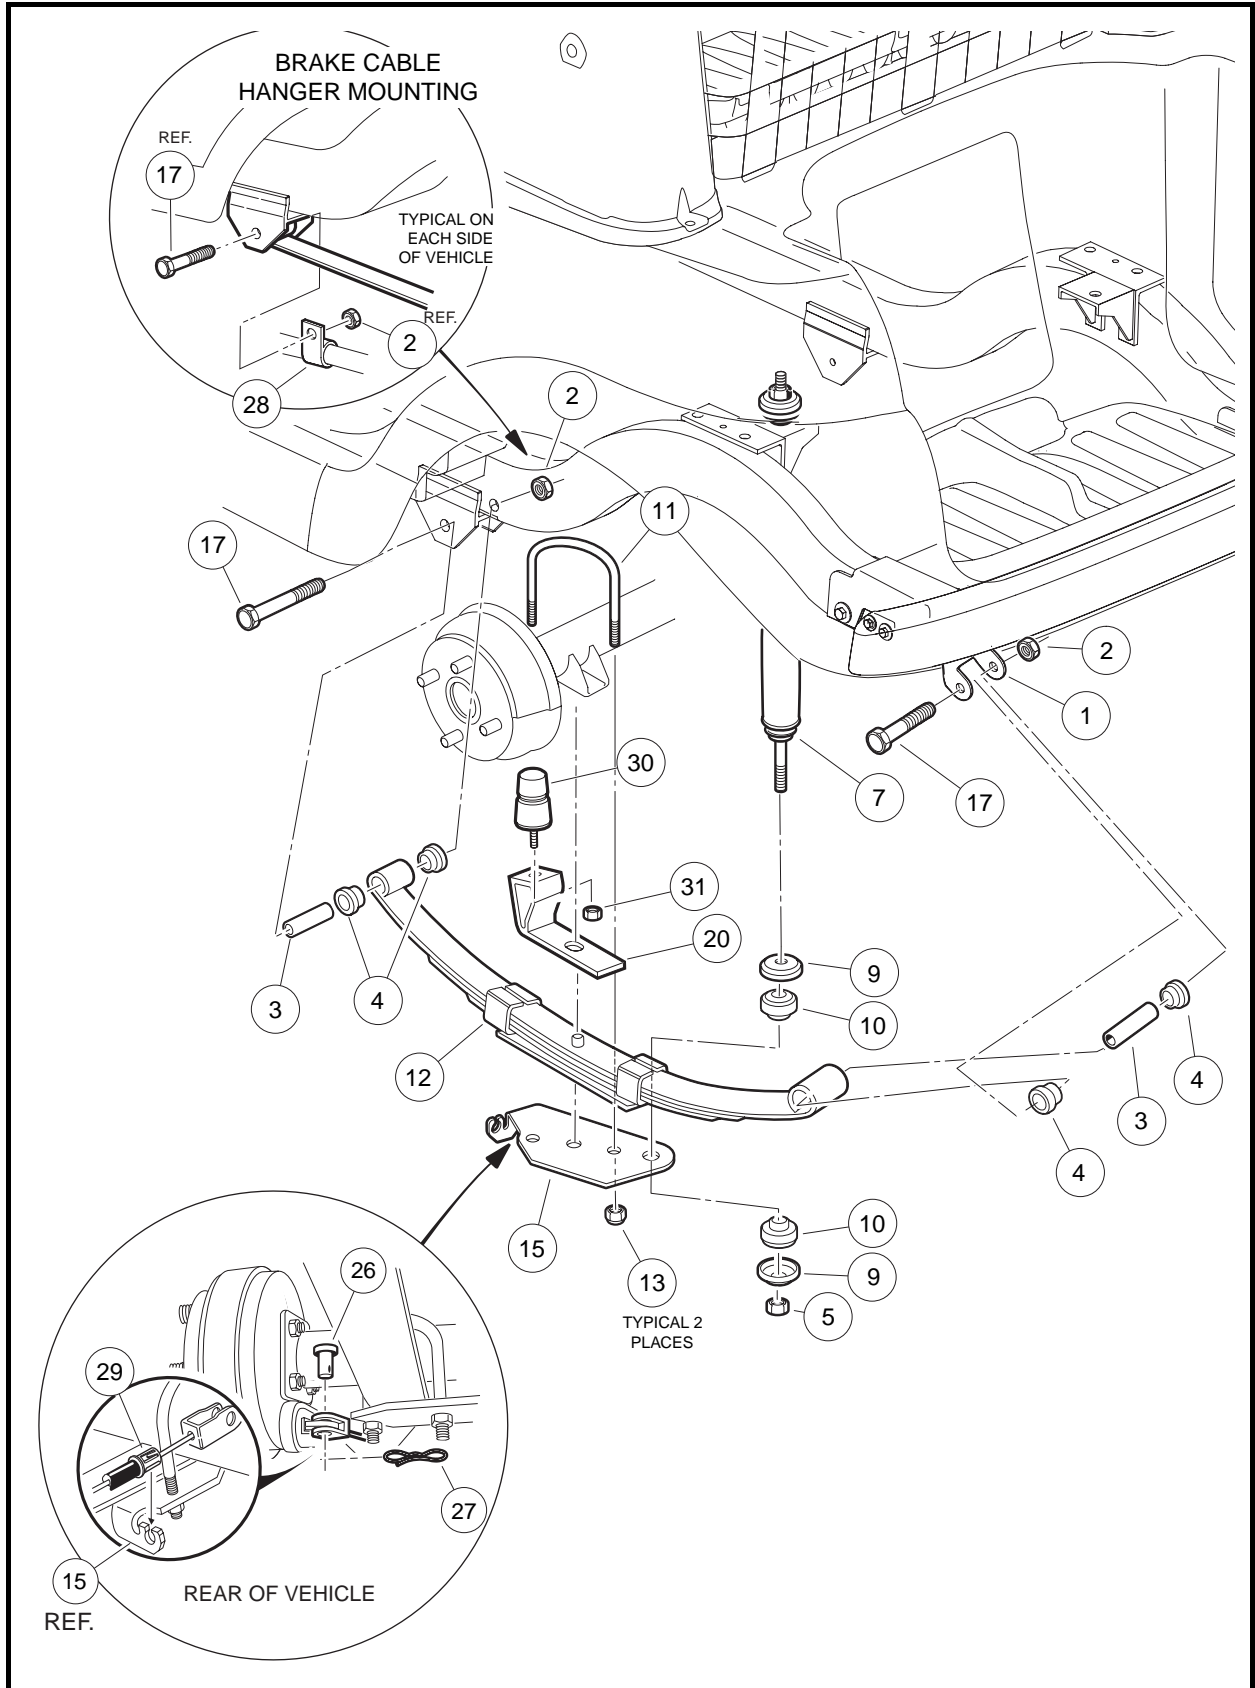

Figure 9-4 Rear Suspension Assembly and Mounting (Four-Passenger Vehicles)
1. Check shock absorbers (7) for damage or fluid leakage at the point where the shaft enters the shock absorber body. Replace damaged or leaking shock absorbers (**Figure 9-1, Page 9-2 or Figure 9-4, Page 9-5**).
2. To remove a shock absorber, remove the nut (5), cup washer (9) and rubber bushings (10) from the stem at the top of the shock absorber.
3. Remove the nut (5), cup washer (9), and rubber bushings (10) from lower mounting stem.
5. Remove the nut (5), cup washer (9), and rubber bushings (10) from the lower mounting stem of the shock absorber **(Figure 9-4, Page 9-5)**.
6. Remove the nuts (13) and the U-bolt (11) securing the spring and jounce bumper to the transaxle. Remove the shock mount bracket (15), jounce bumper bracket (20), and the U-bolt (11).
7. Remove the bolt (17) and nut (2) attaching the rear of the spring to the shackle (1).
8. Remove the nut (2) and bolt (17) attaching the front of the spring to the vehicle frame and remove the spring.
9. Inspect the bushings (4) and sleeves (3) in the spring eyes and replace them if they are worn or damaged.
3. Tighten nuts (2) on spring mounting bolts (17) to 15 ft-lb (20.3 N·m) **(Figure 9-4, Page 9-5).**